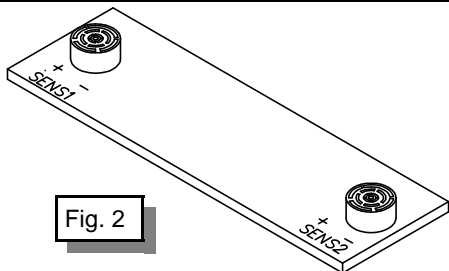

Fig. 2
B) With the sensors in horizontal position (fig. 2):